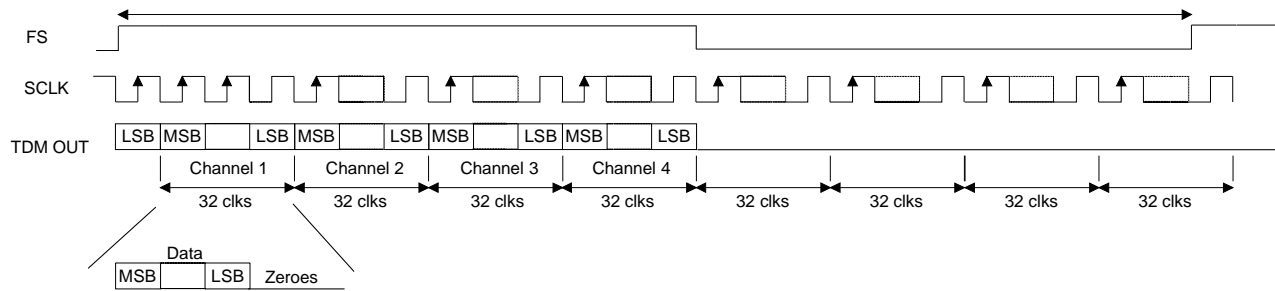

Figure 12. TDM Format
In TDM Mode, all four channels of audio data are serially clocked out during a single Frame Sync (FS) cycle, as shown in Figure 12. The rising edge of FS signifies the start of a new TDM frame cycle. Each channel slot occupies 32 SCLK cycles, with the data left justified and with MSB first. TDM output data should be latched on the rising edge of SCLK within time specified under ‘Serial Audio Interface - TDM Timing’ section on page 16. The TDM data output port resides on the SDOOUT1 pin. The TDM output pin is complimentary TDM data. All SDOOUT pins will remain active during TDM Mode. Refer to Section 4.11 “Optimizing Performance in TDM Mode” on page 29 for critical system design information.